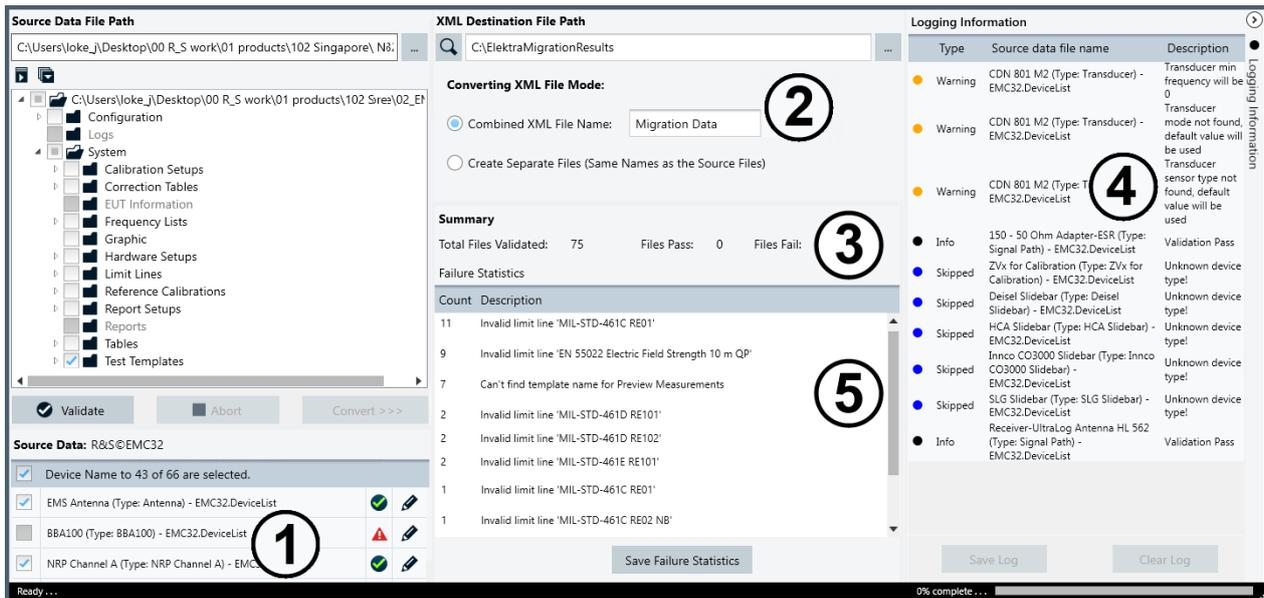

Figure 2-7: Source data selected for conversion to XML data (EMC32)
The source data selection limit interface has the same operation as in R&S EMC32 (Figure 2-7), but differs in that you can select the data files directly.
In the list of "Source Data" files (1), you can select the available files individually. In this dialog section, if you check the checkbox on top of the list, the tool selects all files that have passed validation (see sections (3) and (4) in Figure 2-7).